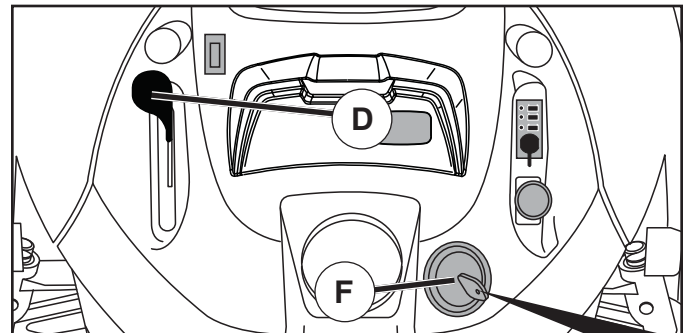

Fig. 6
- Move throttle control (D) between half and full speed (fast) position.
- Turn ignition key (F) to "STOP" position and remove key. Always remove key when leaving tractor to prevent unauthorized use.
### TO USE THROTTLE CONTROL (D) (See Fig.6)